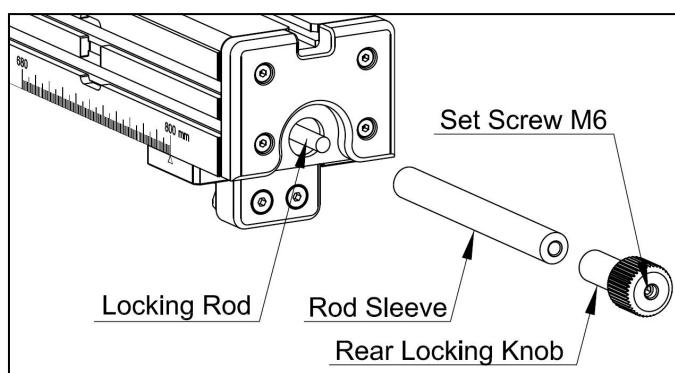
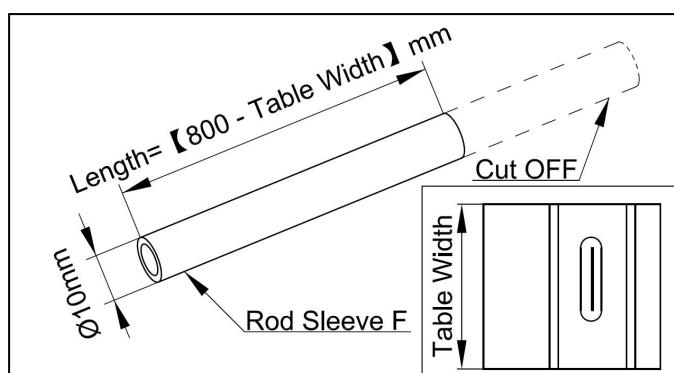

Fig. 6-17
Fig. 6-18
- ① As shown in Fig. 6-17, loosen the M6 set screw and unscrew the Rear Locking Knob.
- ② Slip the Rod Sleeve onto the Locking Rod and then screw the Rear Locking Knob back on. You do not need to tighten the M6 set screw at this point to allow for adjustments later.
- c. If the table width is between 690mm and 795mm, you will need to modify the rod sleeve before installation. The installation procedure remains the same as in the previous step. Afterward, proceed with step 3. The rod sleeve must be shortened to meet the installation requirements for tables within the width range of 690mm to 795mm. The modified dimensions for the rod sleeve can be found in Fig. 6-18. **The length of the rod sleeve should be equal to 800mm minus the width of the table.**